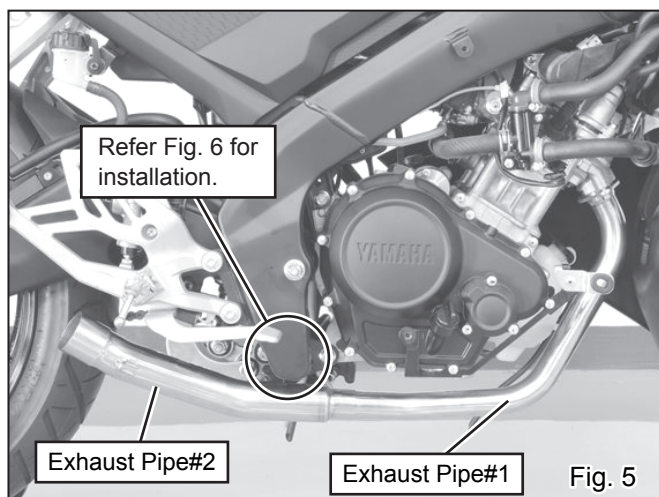

Fig. 5
- 5) Install Exhaust Pipe#2 into Exhaust Pipe#1. Then, mount exhaust pipe bracket to stock exhaust bracket with Cap Bolt M8x20, Washer M8x26, Spacer 10-26-6 and Flange Nut M8 (See Fig. 5 & 6).